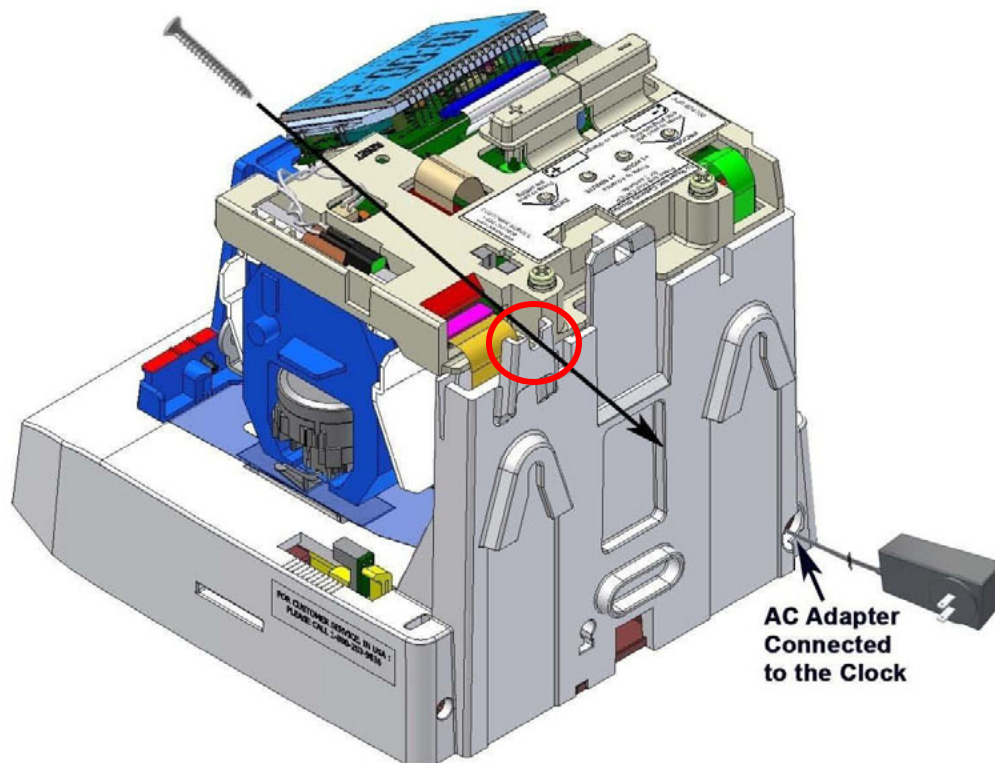
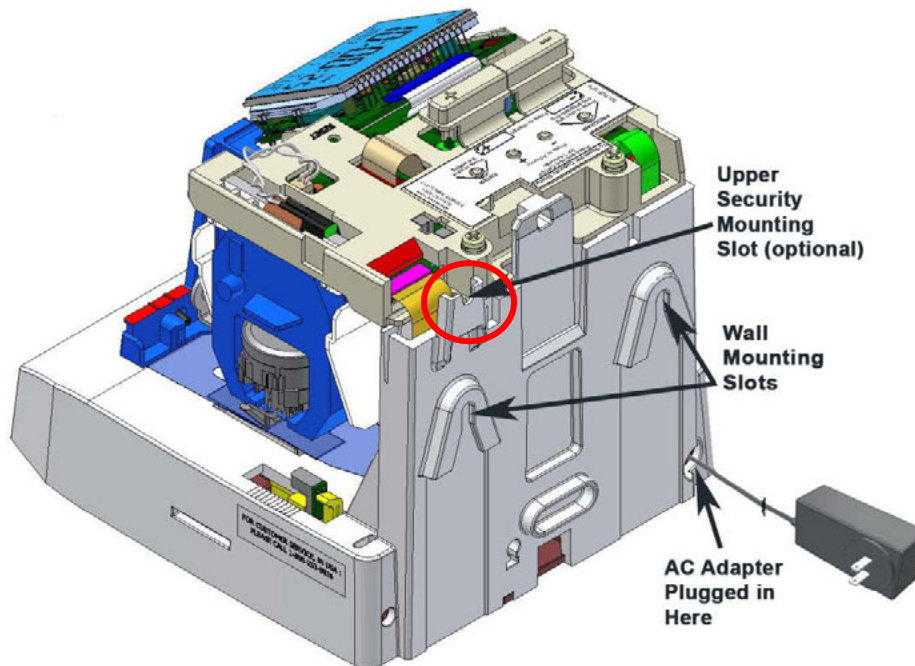

Figure 6: PIX-75 Optional Security Screw.
Figure 7: PIX-75 Rear View for Wall Mounting
1. Using the supplied mounting template (see last page of this guide), mark the two (2) mounting slots on the wall. A 3rd mounting slot can be used to provide security (see Figure 7).
4. If security is an issue for removing the PIX-75 from the wall, remove the cover, and use the upper mounting slot (see Figure 7 below or Figure 6 on page 41) to firmly secure the back of the PIX-75 to the wall. Secure to the wall using #10 wood screw (or equivalent).